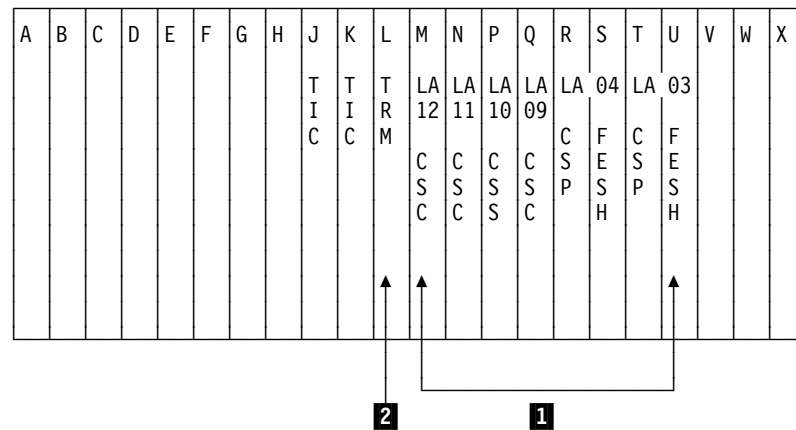

Figure 6-8. Basic Board of a 3745 Model 17A (01G-A1)
- a. ____ A **BPC1** is required in all the free positions normally occupied by a **CSC**, **CSP**, or **FESH** card (position 01G-A1 M4 to 01G-A1 U4, see Figure 6-8 **1**).
- b. ____ A **BPC2** is required in position 01G-A1 L4 if the **TRM** card is not installed in this location (see Figure 6-8 **2**).
- c. ____ Plug a **BPC1** in all the free positions from location 01G-A1 M4 to 01G-A1 U4 (see Figure 6-8 **1**).
- e. ____ Plug the **BPC2** card in location 01G-A1 L4 (if this location is empty, see Figure 6-8 on page 6-9 **2**).